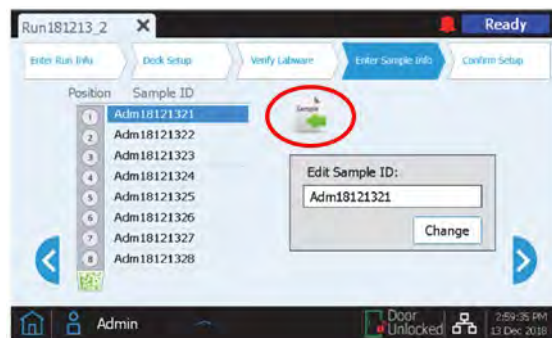

Figure 18. Edit Sample Info screen on Magnis NGS Prep (sample loading button circled in red).
- ◇ When setting up the assay, on the *Enter Sample Info* screen, press the sample loading button (circled in red on Figure 18).